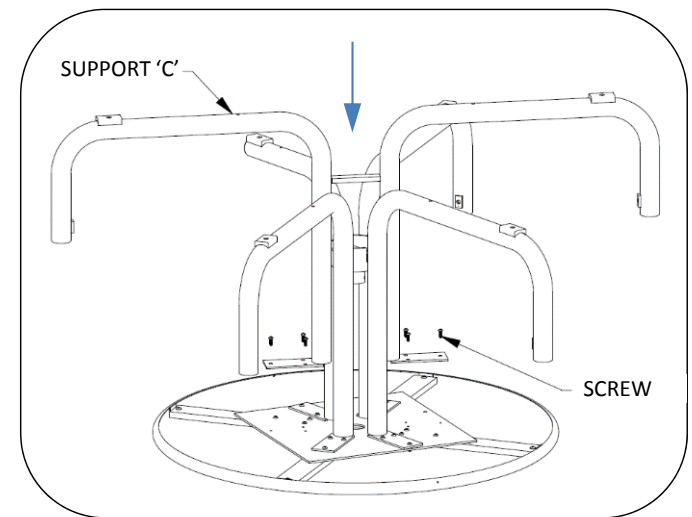
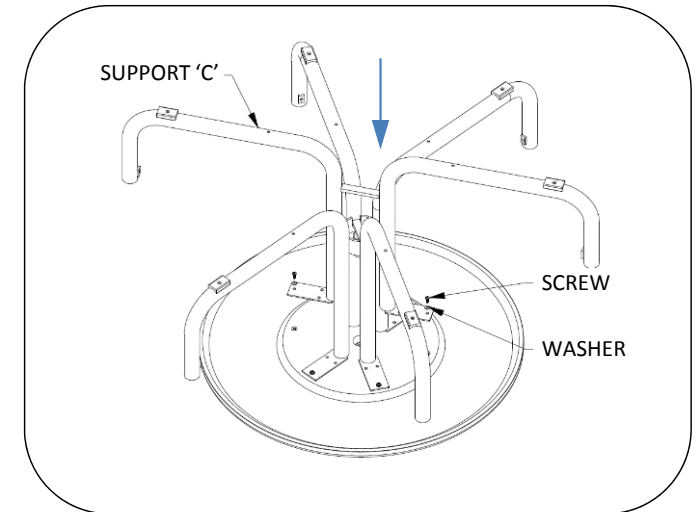

Fig. 7 – 5 support 'C' install (not Marneaux)
Fig. 10 – 6 support 'C' install (Marneaux)
7. For 5 or 6 seat units, lower support “C” over installed supports. Loosely fasten to tabletop. See Fig 7 or Fig. 10.